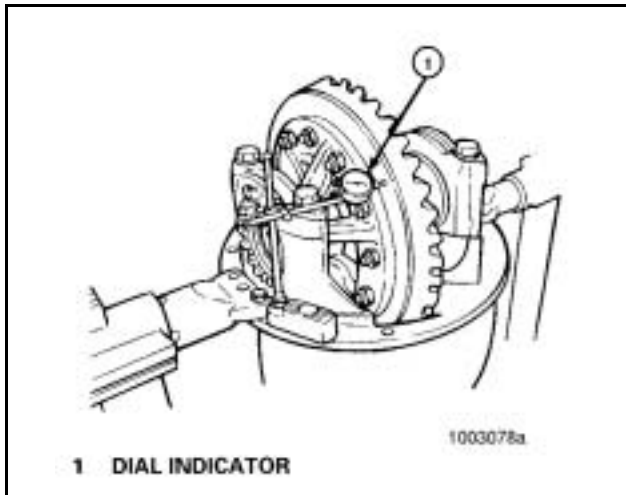

Figure 100
2. Adjust the dial indicator so that the plunger or pointer is against the back surface of the ring gear. **Figure 100.**